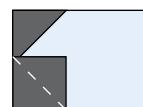
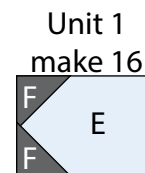

Fig. 4
Fig. 5
3. Follow Figure 4 for the seam direction to add a 3" Fabric F square to the lower left corner of the 5 ½" x 7 ½" Fabric E strip to make (1) Unit 1 rectangle (Fig. 5).